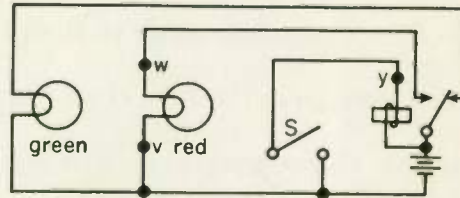

Fig. 43
18. In Fig. 43 the green light is on and the red light off both when switch S is open and when S is closed. What might be wrong with the circuit, if anything?